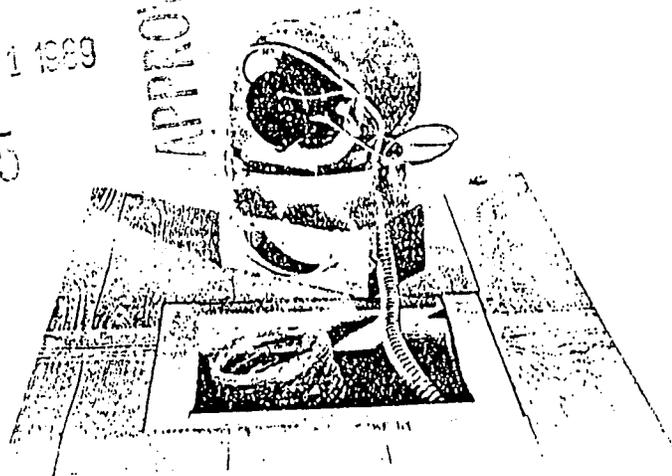

FIGURE 17
10. Secure flexible conduit to the 7/8 inch hole in the blower assembly. See figure 17.